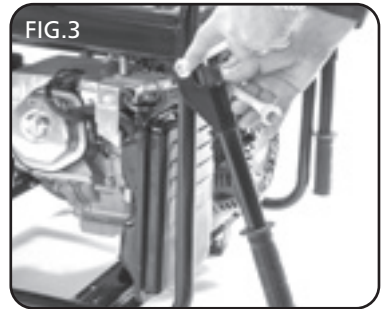

FIG.3
8.2 CONNECTING HANDLES - FIG 3